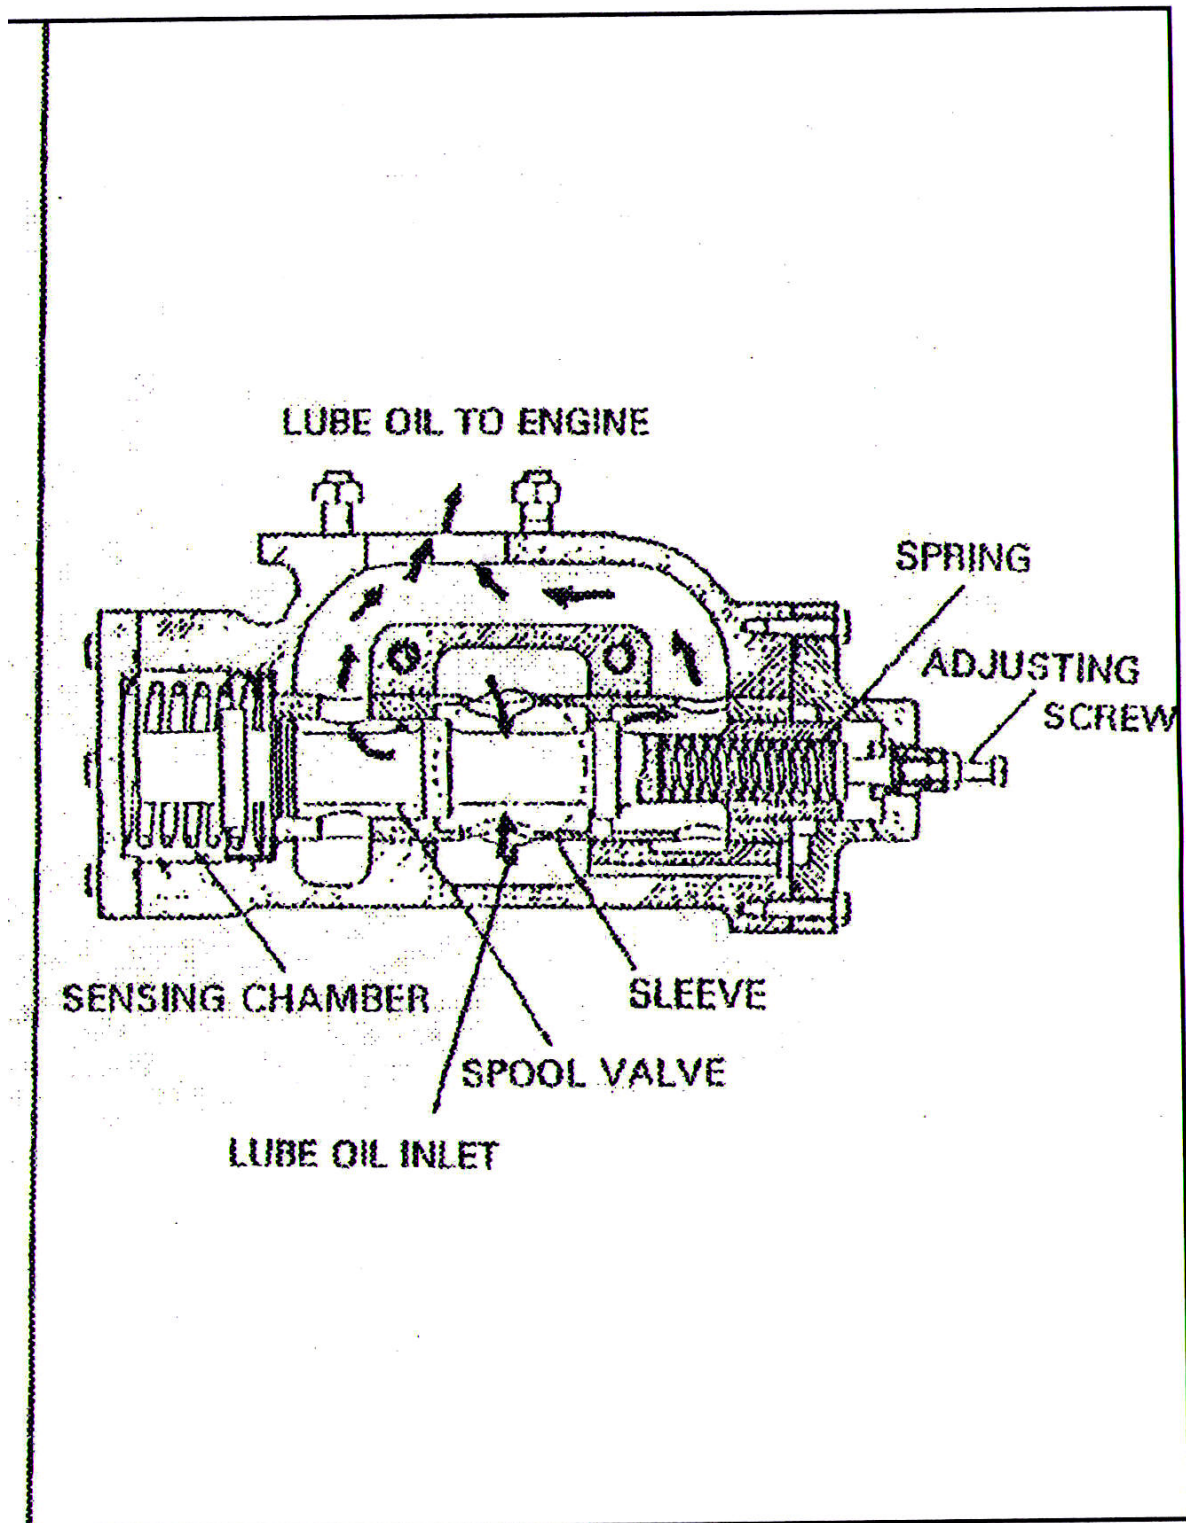

Figure 5-12 Pressure Regulating Valve
5.2.8 Pressure Regulating Valve (Figure 5-12)